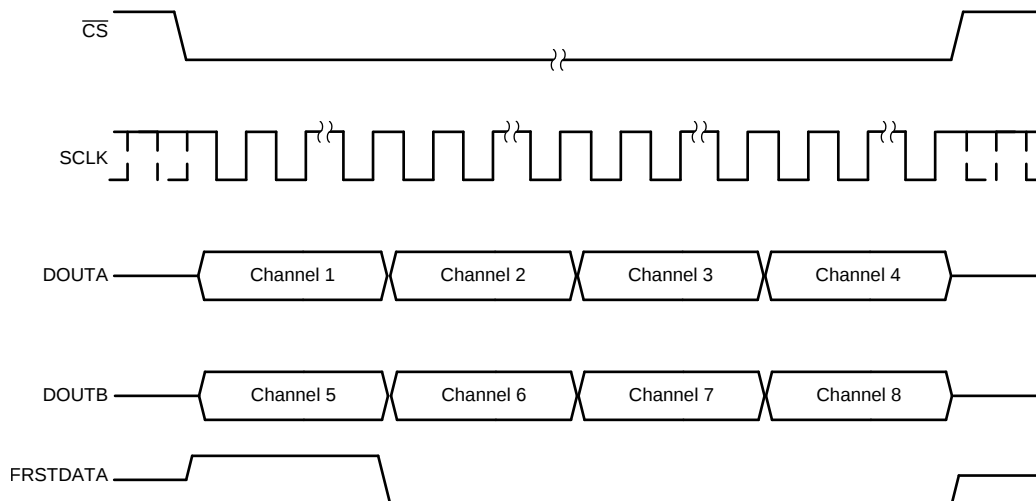

Figure 70. Data Read Back in the Serial Interface Using Both DOUTA and DOUTB Timing Diagram
- In order to minimize the time for the data read operation in serial mode, both DOUTA and DOUTB can be used to read data out of the device. In this case, the conversion results from the first set of channels (channels 1-4 for the ADS8578S) appear on DOUTA and the conversion results from the second set of channels (channels 5-8 for the ADS8578S) appear first on DOUTB. To read the data for all channels, provide a total of $14 \times 4 = 56$ SCLK cycles for the ADS8578S. This entire data frame can be created within a single $\overline{CS}$ pulse or each group of 14 SCLK cycles can be individually framed by the $\overline{CS}$ signal. Figure 70 shows an example timing diagram.